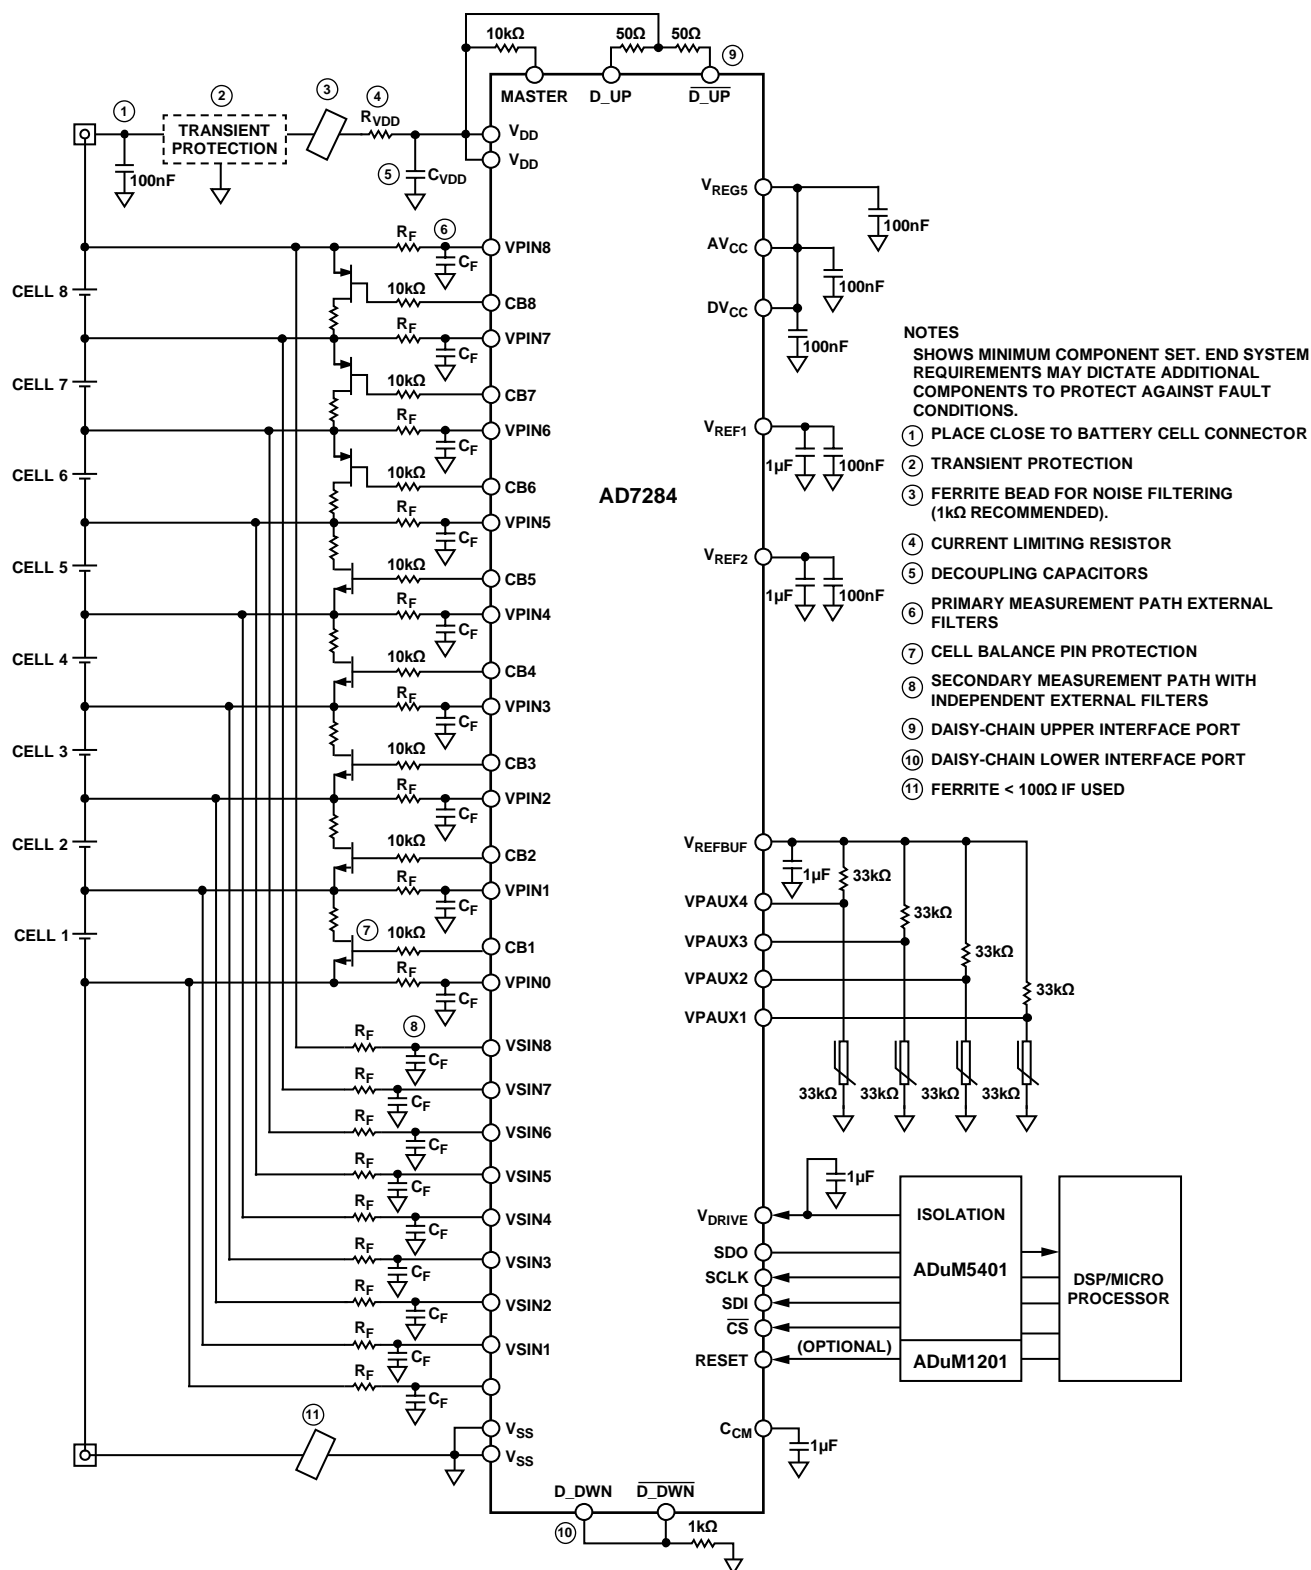
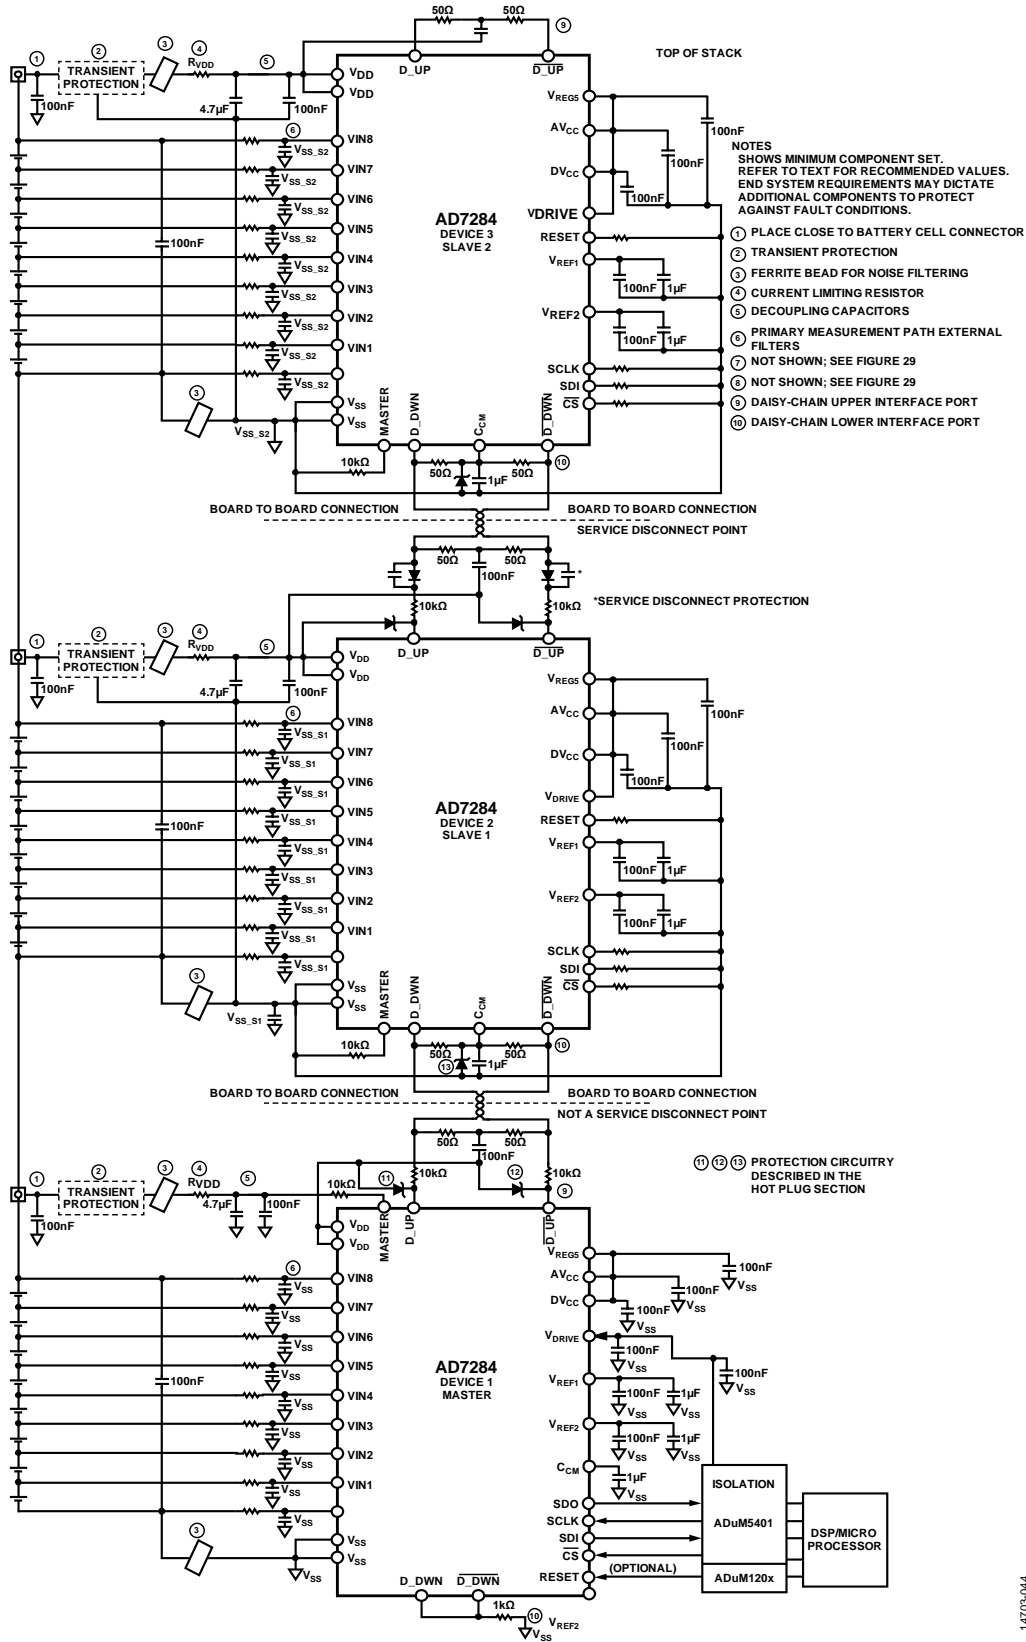

Figure 41. AD7284 Master Configuration Diagram for Eight Battery Cells
Figure 42. AD7284 Daisy-Chain Configuration with Three Devices, Where All Devices Are on Separate Boards
Figure 41 shows an example of components for a master device, monitoring eight cells using two independent filters (on the primary and secondary path), and monitoring temperature on four thermistors.
The following notes refer to the notes detailed in Figure 41 and Figure 42:
3. Ferrite bead to filter supply noise. Typically, 1 k $\Omega$  ferrite (100 MHz) is recommended in the  $V_{DD}$  path. If a ferrite is required in the  $V_{SS}$  line, it is recommended to use a value <100  $\Omega$  (100 MHz). This note applies to the master or slave configurations. See Note 11 in Figure 41 and see Note 3 in Figure 42.
Note that the 1  $\mu$ F capacitor on  $V_{DRIVE}$  shown in Figure 41 is an ADuM5401 requirement. It is recommended to add 100 nF decoupling on the  $V_{DRIVE}$  pin.
Li-Ion battery applications require a significant number of individual cells to provide the required output voltage. Figure 42 shows the recommended configuration of a chain of AD7284 devices monitoring a larger battery stack. The daisy-chain interface of the AD7284 allows each AD7284 to communicate with the AD7284 immediately above and below it. The daisy-chain interface allows the AD7284 devices to be electrically connected to the battery management device without the need for individual isolation devices between each AD7284. One AD7284 acts as the master device, interfacing through the standard SPI interface to the host processor and to the chain of connected slave devices.
Figure 42 shows how a chain of three devices can be configured to operate on individual boards, if required; the same configuration can be used if all devices are mounted on the same board.